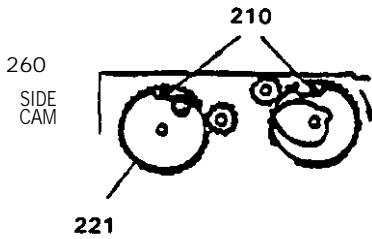
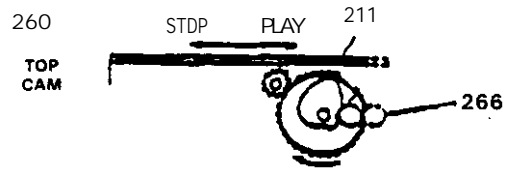

FIGURE 3-5. EJECT GEAR
FIGURE 3-6. PAUSE MODE
The FF/REW Solenoid Armature is held by Solenoids (315 and 316), and the Head Plate (203) moves forward. The Timing Arm (215) then lifts off the Head Plate Shaft to lock the Mode Gear (260), and the Cassette Tape begins to play. As soon as the Motor starts turning, the Eject Gear (221) also turns, and the Stopper Groove of the Eject Gear moves to the position of the Select Arm Pin (210), (see Figure 3-5). The Select Arm Pin locks the Eject Gear (221), and the Chip Arm (212) is held in place by the Program Solenoid (314). The Mode Gear (260) starts turning, and the Power Plate (211) is moved by the cam on the gear to PLAY position (see Figure 3-6). As the Power Plate (211) moves, the Power Arm (208) and the Mode Plate (209) move to the PLAY position, and the Mode Gear (260) comes to a stop.